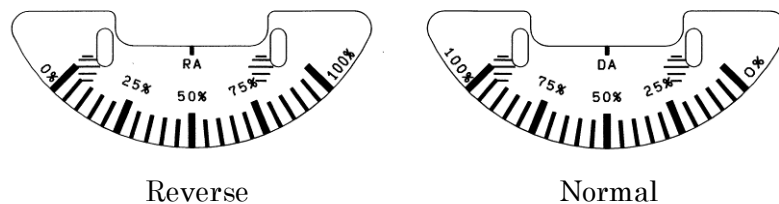

Fig.21 Scale plate
- (1) Perform adjustment of zero span in positioner before installing the positioner to either face of DA or RA with consideration of operating direction. (Refer to Fig. 21.)